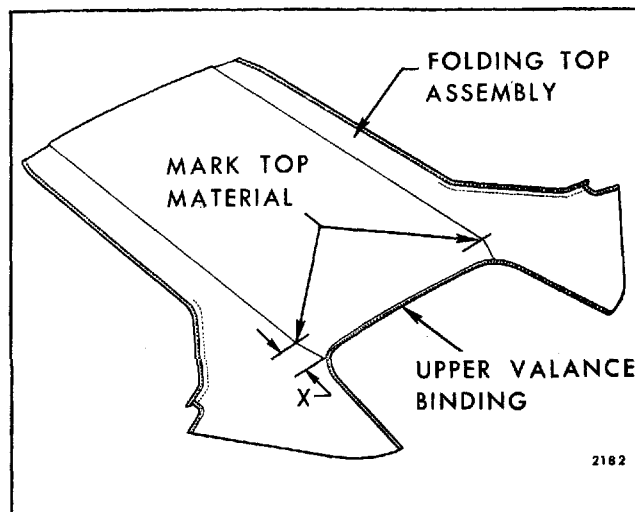

Fig. 6-38—Marking Top Material
3. Using a pencil, mark top material (mark should be approximately 1/2" in length) at deck seam 5-1/4" on "B & C" and 4-1/4" on "A & Z" Styles from edge of top material upper valance binding. (See dimension "X" in Fig. 6-38).